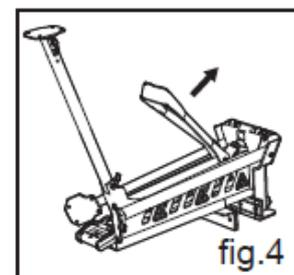

fig.4
2. Pivot the foot pedal (5) until it “clicks” into position. (See fig. 4)